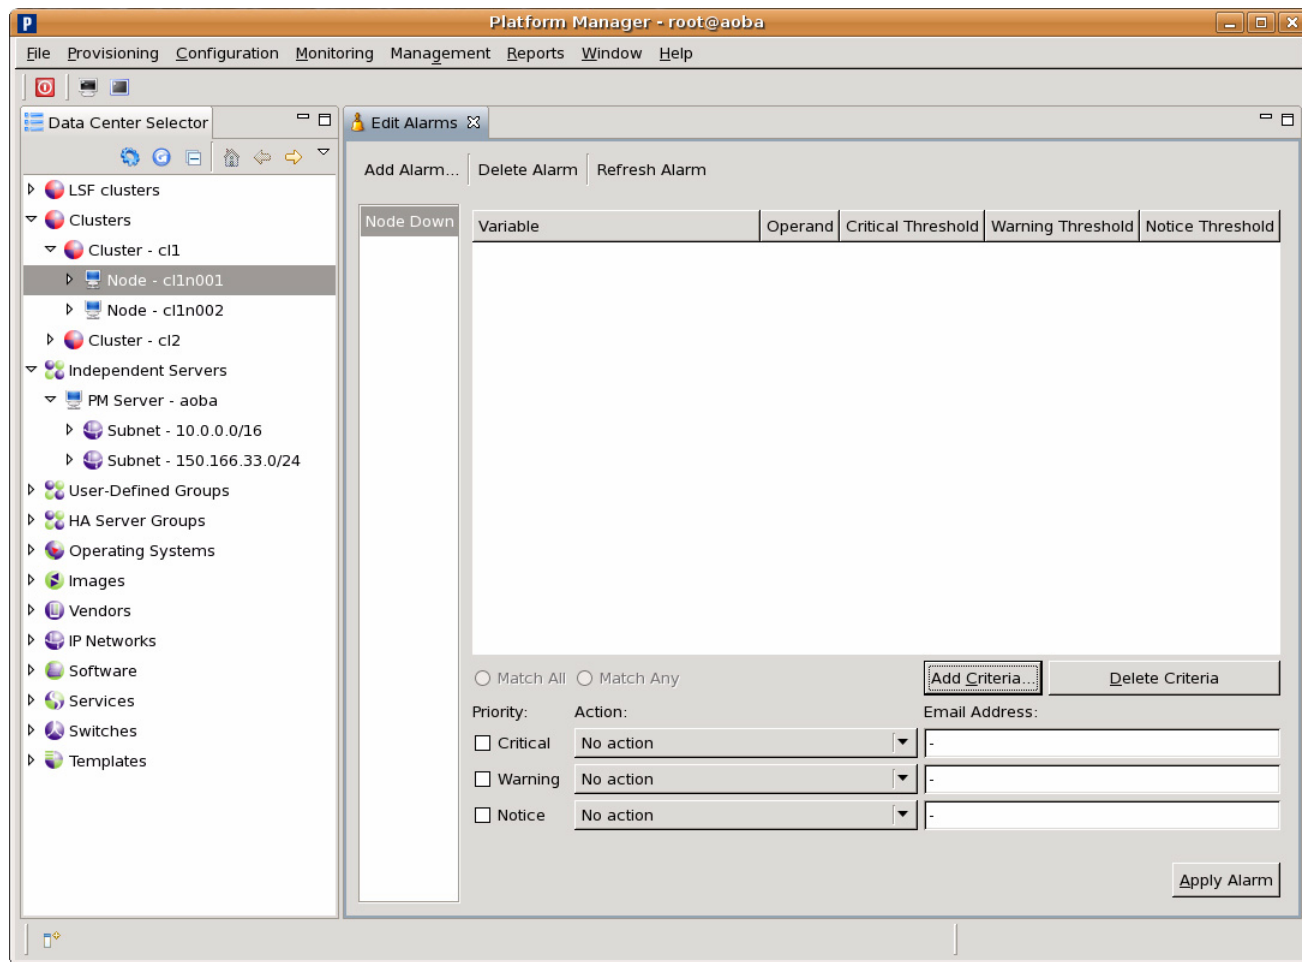

Figure 2-16 Add Criteria Screen Example
- At this time you must enter the criteria that trigger the alarm. Click on “Add Criteria” (refer to Figure 2-16.)